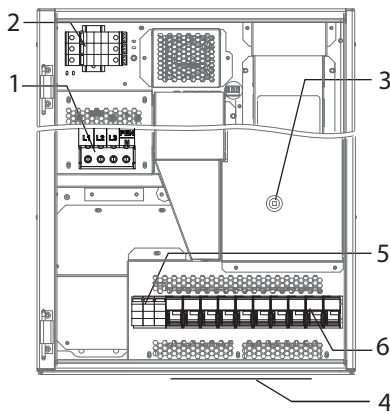
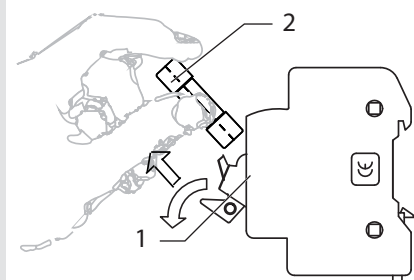

Figure 25: blueplanet 50.0 TL3 version XL
Figure 31: Insert DC fuse
1. Open the individual DC fuse holders one after another (Figure 25 on page 21 and Figure 31).